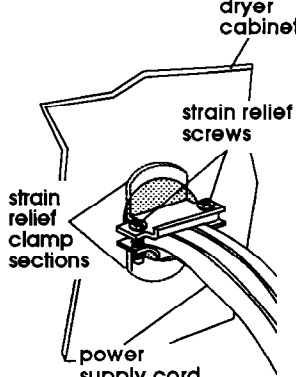

Figure 13
3. Assemble 3/4" U.L.-listed strain relief (U.L. marking on strain relief) into the hole below terminal block opening. Tighten strain relief screws just enough to hold the two clamp sections together. Install power supply cord through the strain relief (Figure 13).